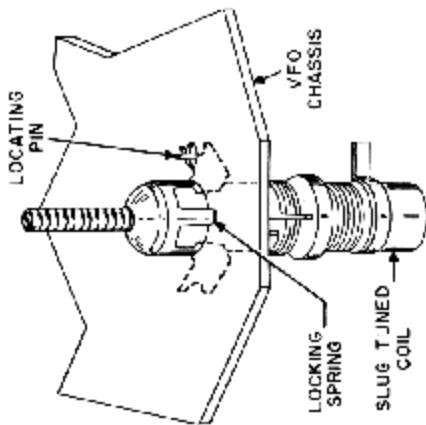

FIGURE 4
- L-1, oscillator coil. Mount as shown in Figure 4. Be sure the locating pin is correctly positioned before pushing the locking tab through the chassis.